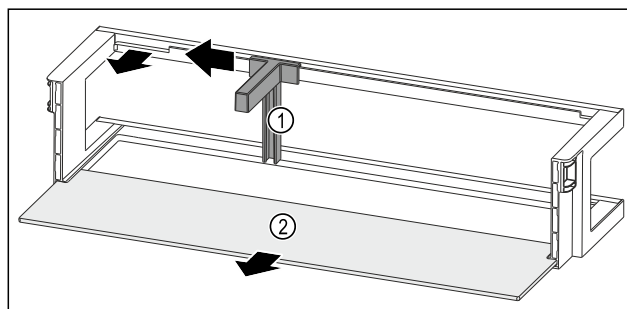

Fig. 101 Door rack with bottle holder and shelf
- Slide the bottle holder Fig. 101 (1) to the side as far as the recess.
- Remove the bottle holder Fig. 101 (1).
- Remove the shelf Fig. 101 (2).